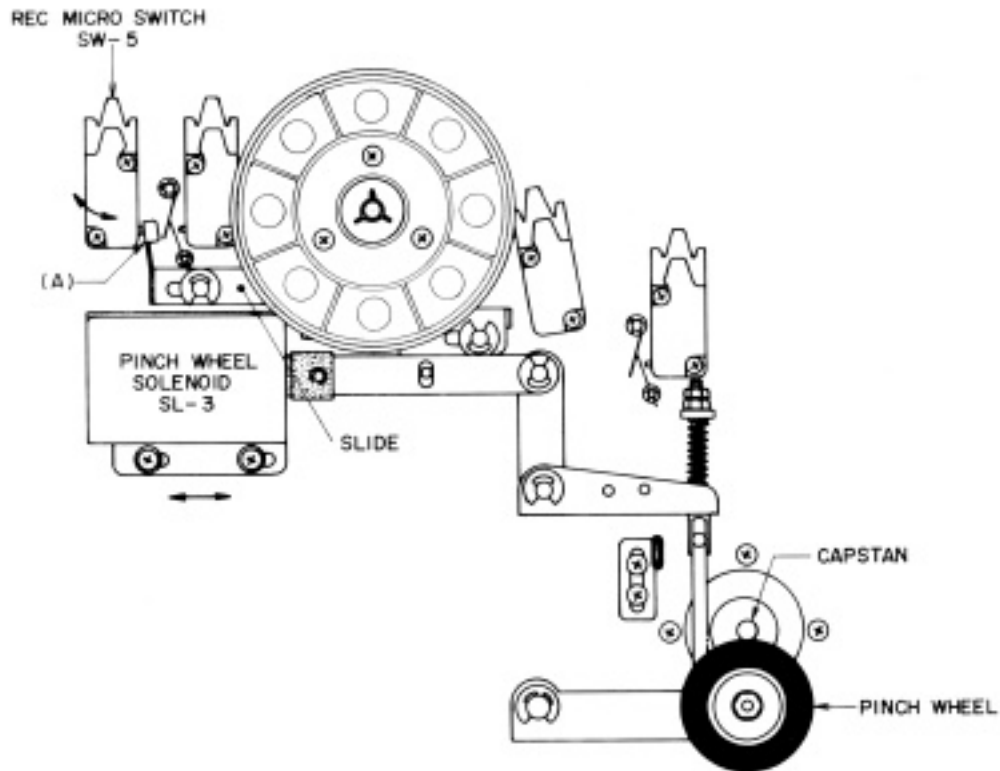

Fig. 1
1. POSITION ADJUSTMENT OF PINCH WHEEL SOLENOID SL-3 (Refer to Fig. 1)
7. POSITION ADJUSTMENT OF RECORDING MICROSWITCH SW-5 (Refer to Fig. 1)